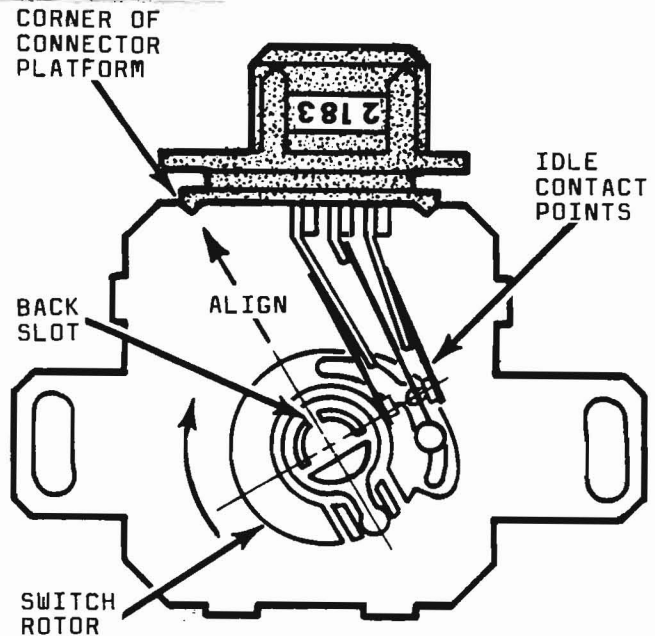

Figure 9
47. Push down on the throttle linkage until the back of the slot on the switch rotor aligns with the corner of the connector platform. See figure 9. The idle contact points should be just about to open.